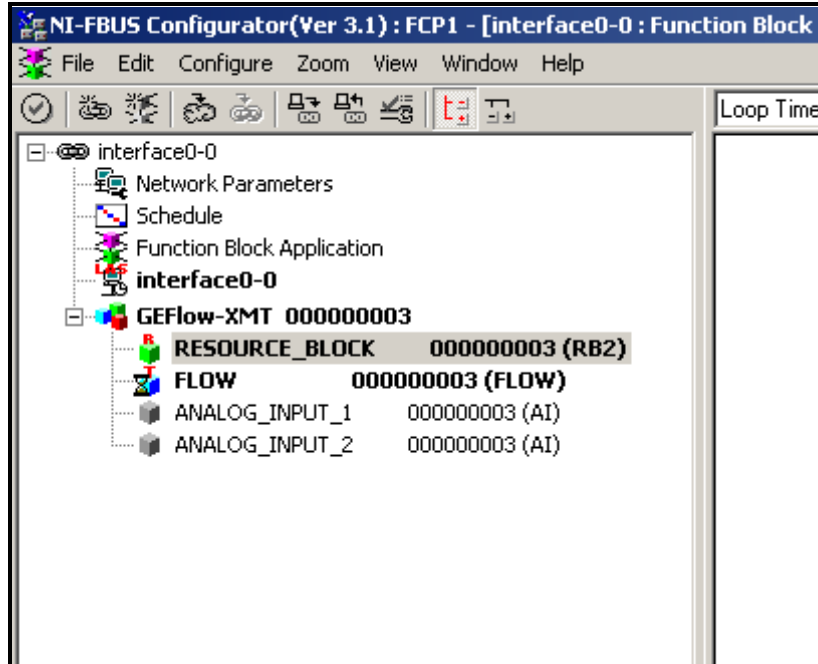

Figure 40: Configuration Utility Setup Example
Figure 40 below shows the Configuration Utility with a flowmeter on the network (Panametrics Flow-XMT).
1. Double click on the AI block for which you wish to set the units (ANALOG\_INPUT\_1 or ANALOG\_INPUT\_2 in the tree under GEFlow-XMT; see Figure 40 on page 114).
1. Double click on the FLOW transducer block (in the tree under GEFlow-XMT; see Figure 40 on page 114).